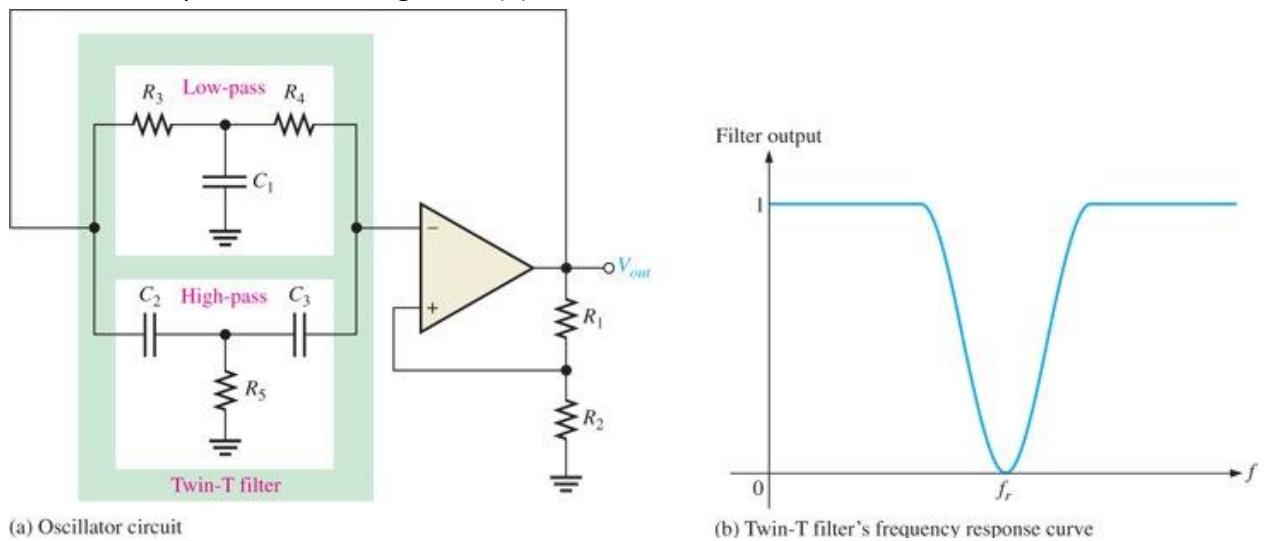

Figure 13 Twin-T oscillator and twin-T filter response.
- Another type of RC feedback oscillator is called the **twin-T** because of the two T-type RC filters used in the feedback loop, as shown in Figure 13(a).
- The combined parallel filters produce a band-stop response with a center frequency equal to the desired frequency of oscillation, f_r as shown in Figure 13(b).